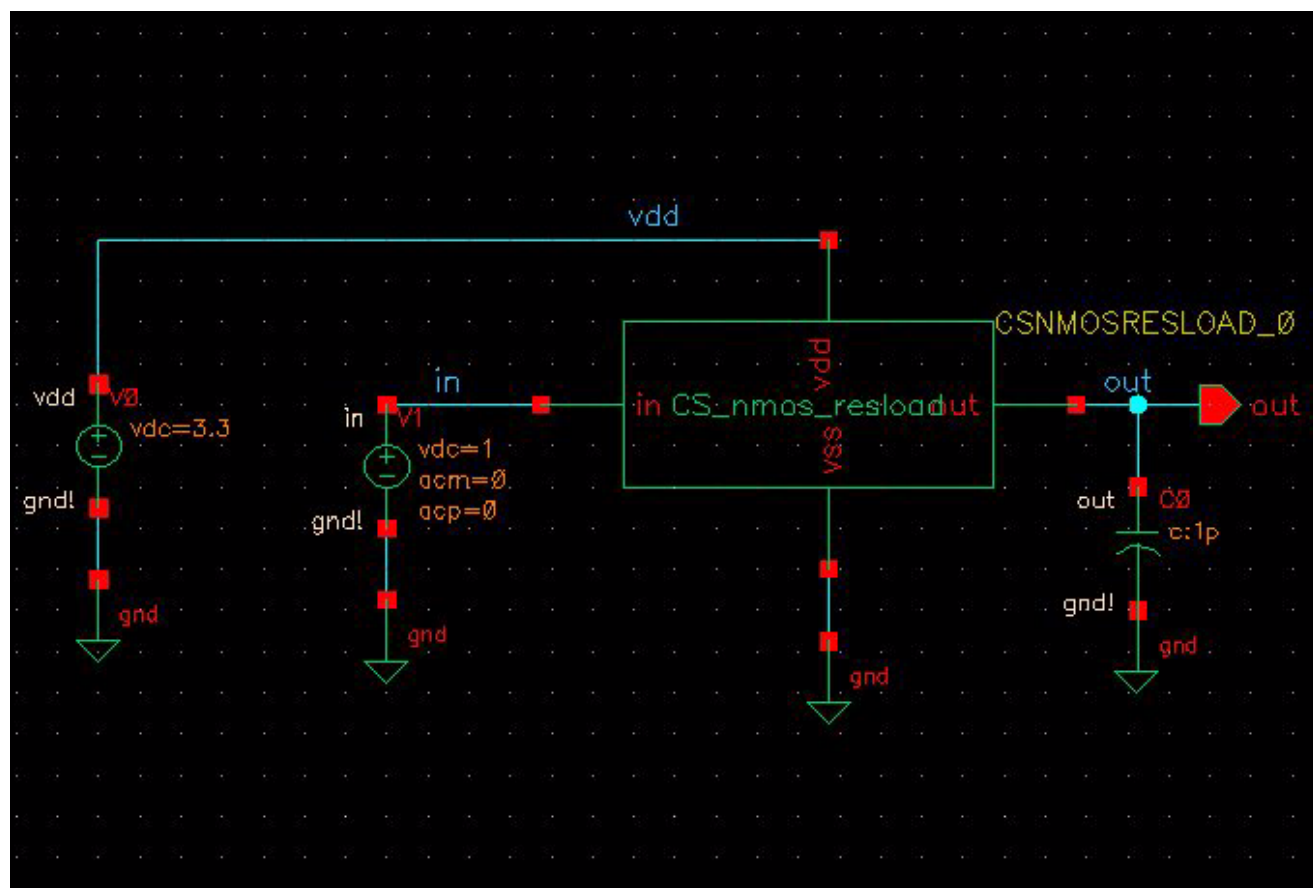

Figure 15: test_CS_nmos_resload schematic
- [5] The Symbol View Editing window opens. The symbol can be modified here if wished: the functionality of this edit window is similar to the schematic composer window (an example symbol is shown in Figure 15).
- [2] *Edit this schematic as follows: (see Figure 15).